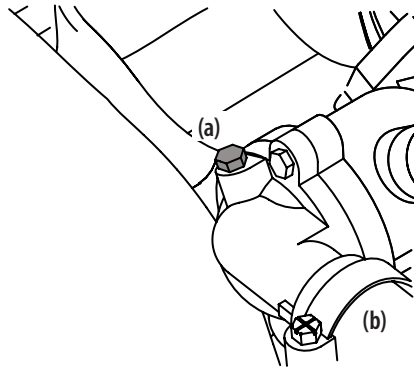

Figure 5-26
- Remove the second bleeder screw (a) where the radiator hose (b) connects to the engine and let the engine run until a steady stream of fluid comes out of the bleeder screw (a) hole indicating there are no more air pockets in the coolant system. Replace the bleeder screw (a). See Figure 5-26.